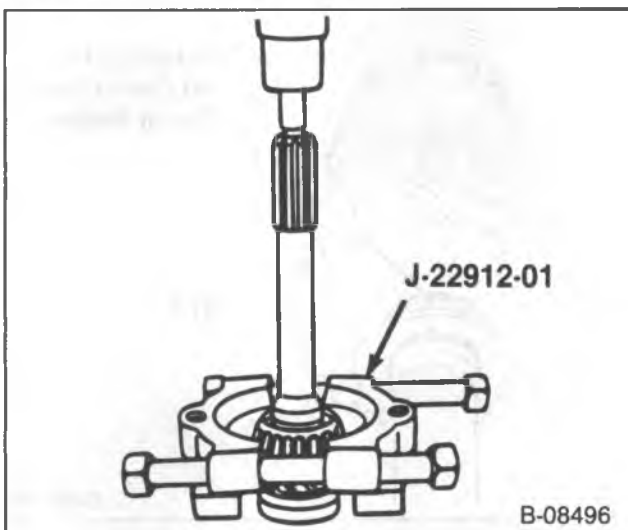

Figure 17—Removing the Main Drive Gear Bearing
1. Thrust bearing and the race (682).
2. Pilot bearings (681).
3. Bearing (680) using J 22912-01 (figure 17).
1. Bearing (680), using J 22912-01 (figure 17).